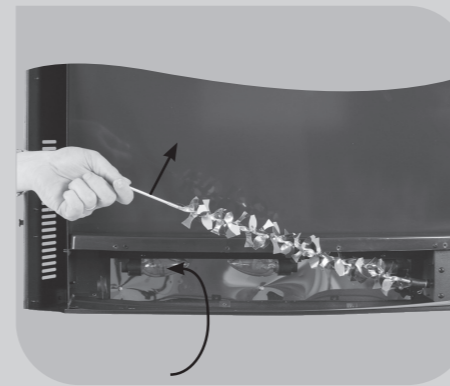

Fig. 6
- For access to the bottom bulbs, carefully slide the flexible rotisserie to one side ensuring that the rubber grommet is not lost (Fig.6).